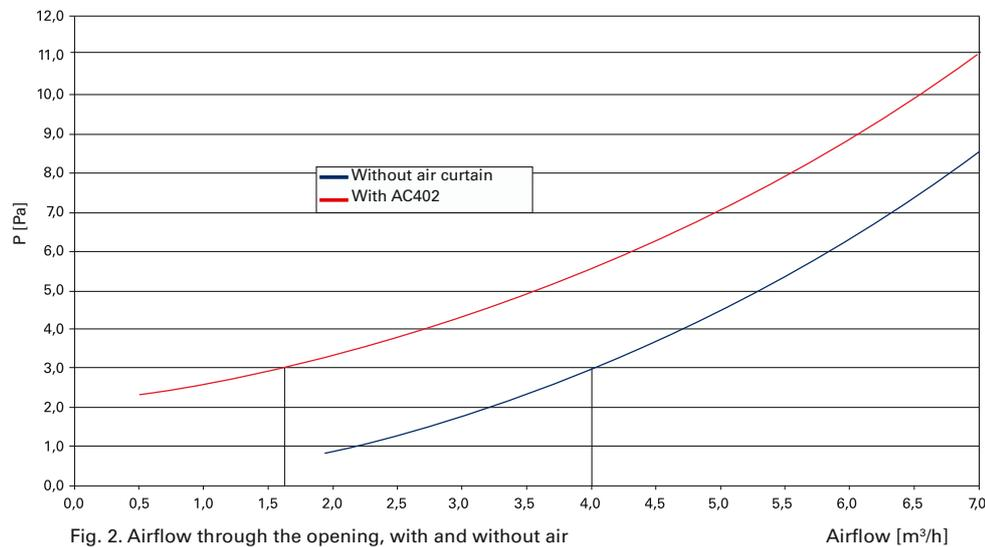

Fig. 2. Airflow through the opening, with and without air curtain at different pressures
When the fans are running airflow is created from the indoor to the outdoor environment and the exact same air volume passes through the ducts as through the opening. This creates a pressure difference ((DP) between the two rooms. The fans start at a low speed which is gradually increased. In the meantime information on airflow and pressure differences is stored in a computer. A curve is created from the data and this is shown in Fig. 2 below. The opening is measured with and without an air curtain. The result is two curves on which the airflow at a certain pressure difference can be compared.